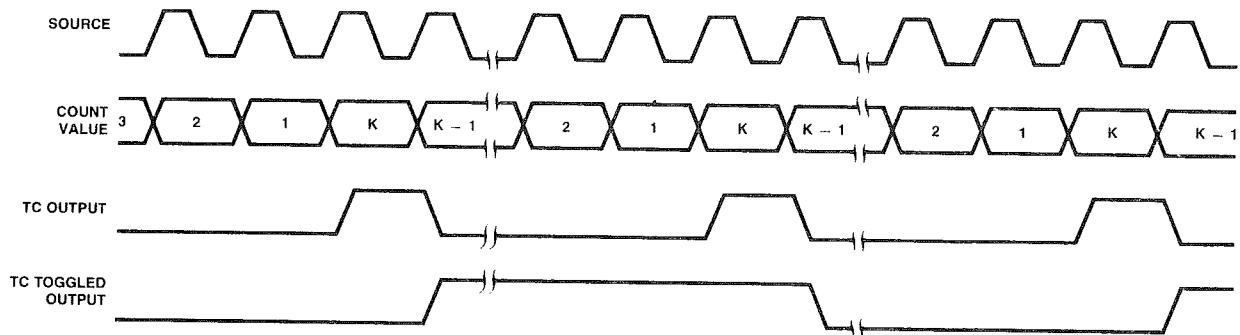

Figure 20. Counter Output Waveforms.
One output form available is called Terminal Count (TC) and represents the period in time that the counter reaches an equivalent value of zero. TC will occur on the next count when the counter is at 0001 for down counting, at 9999 (BCD) for BCD up counting or at FFFF (hex) for binary up counting. Figure 20 shows a Terminal Count pulse and an example context that generated it. The TC width is determined by the period of the counting source. Regardless of any gating input or whether the counter is Armed or Disarmed, the terminal count will go active for only one clock cycle. Figure 20 assumes active-high source polarity, counter armed, counter decrementing and an external reload value of K.